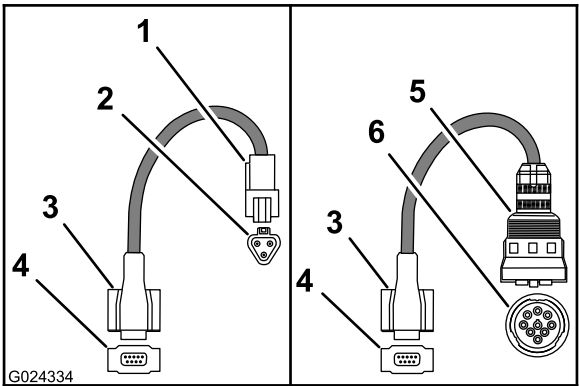

Figure 1
1. Select the harness adapter (Figure 1) for your machine by using the table below.